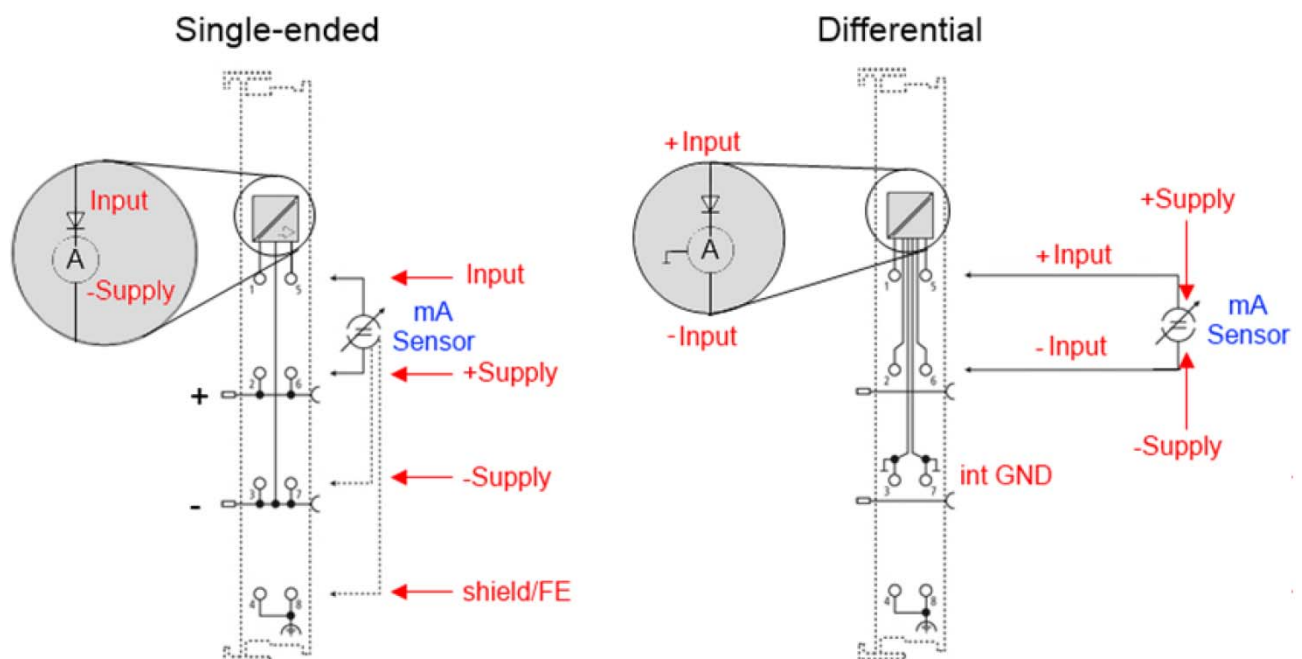

Figure 57: Connection of externally supplied sensors
- 3- and 4-wire connection see Figure 57 on page 164, cf. IEC60381-1